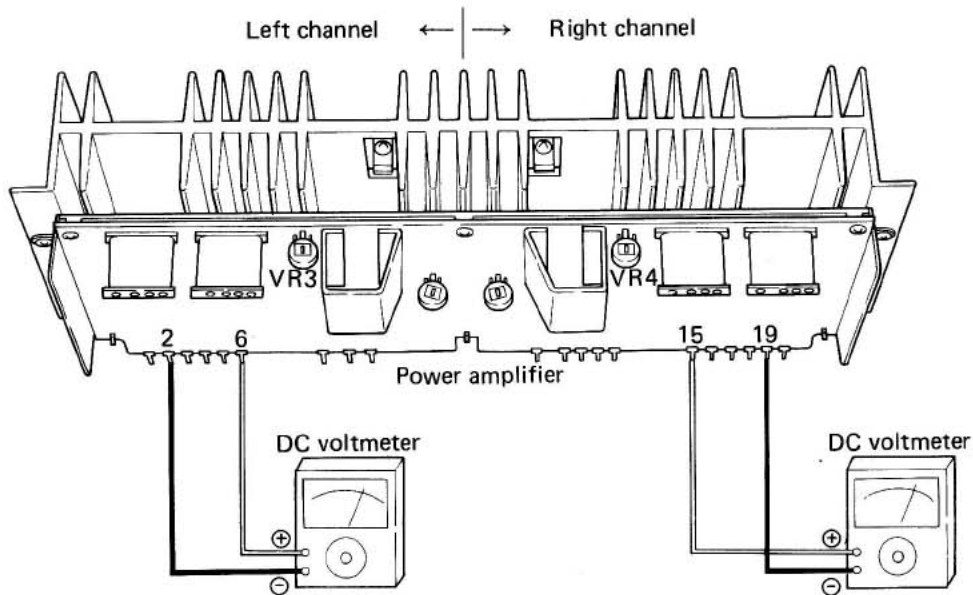

Fig. 33
1. Connect DC voltmeter as shown in Fig. 33.
3. Turn VR3 and VR4 (shown in Fig. 33) fully counter-clockwise, then set POWER switch to ON.